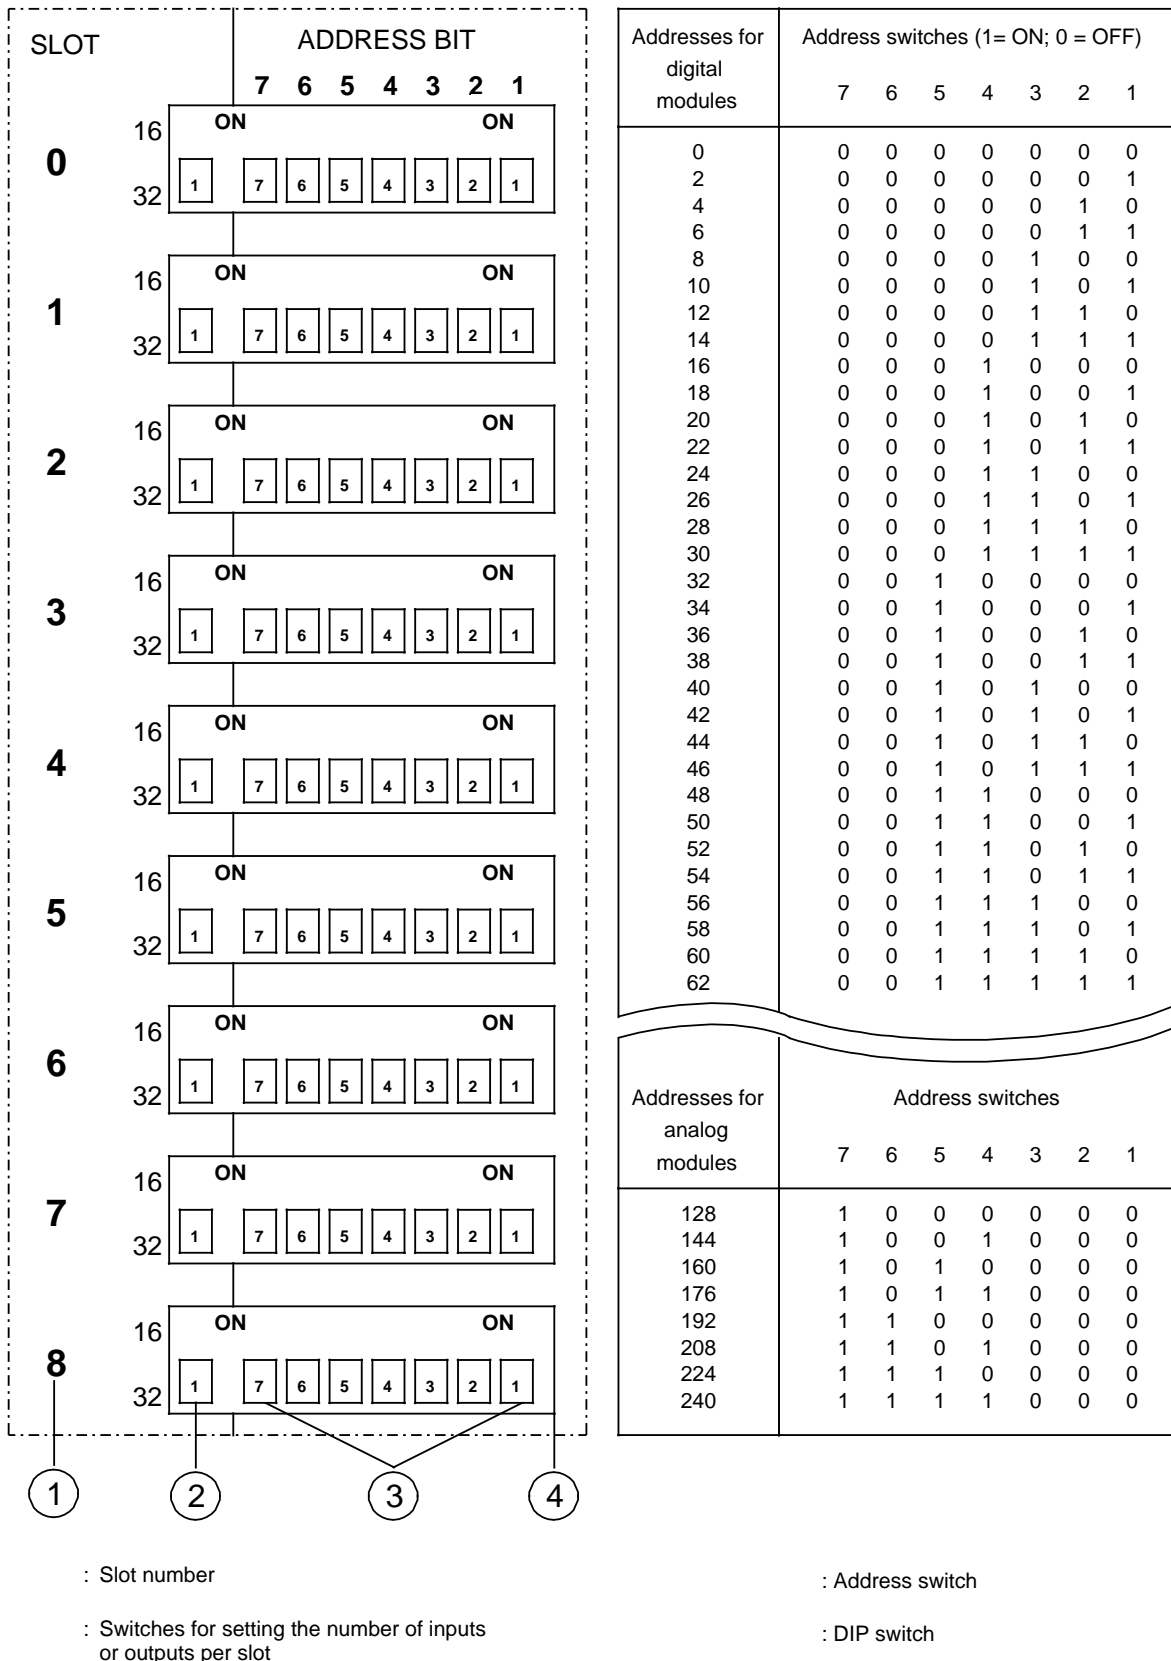

Figure 10-38. Setting the Addresses in the Address Field of the IM 306 Interface Module
Use switch (Figure 10-38) to set the number of inputs and outputs of the module plugged into this slot. ¹
- Take the address switch setting from Figure 10.38 and set it on the DIP switch with slot number 2.